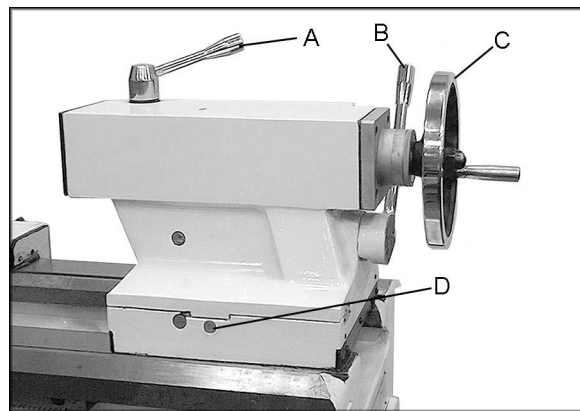

Figure 14
17. **Tailstock Quill Clamping Lever** (A, Figure 14): Located on the tailstock. Rotate clockwise to lock the sleeve. Rotate counterclockwise to unlock.
18. **Tailstock Clamping Lever** (B, Figure 14): Lift up to lock. Push down to unlock. If the tailstock has a heavy load, tighten the hexagon head at right side of the tailstock for auxiliary locking.
19. **Tailstock Quill Traverse Handwheel** (C, Figure 14): Rotate clockwise to advance the quill and counterclockwise to retract it.
20. **Tailstock Off-Set Adjustment** (D, Figure 14): Two hex socket cap screws located on the tailstock base are used to off-set the tailstock for cutting tapers. Loosening one screw while tightening the other will off-set the tailstock. Do not clamp the tailstock lock handle when adjusting.